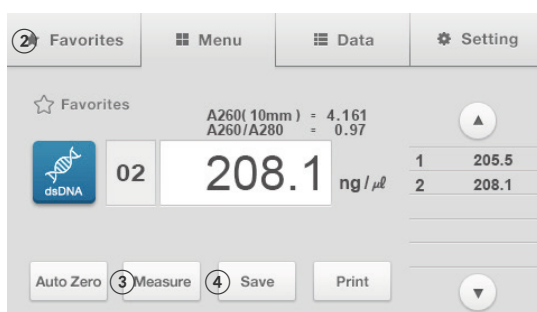

Fig. 3.3
3. [Figure 3.3] The measurement result will be displayed.
5. [Fig. 3.3] To continue measurement, repeat the operation. To finish measurement and save the data, press the [Save] button.
6. [Figure 3.3] To conduct new measurement, press the ② [Favorites] icon to open the Favorites screen.